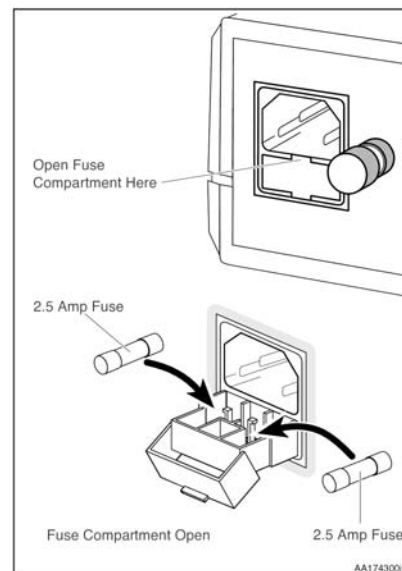

Figure 11 Fuse Replacement
2. Open the fuse compartment, as shown in Figure 11.